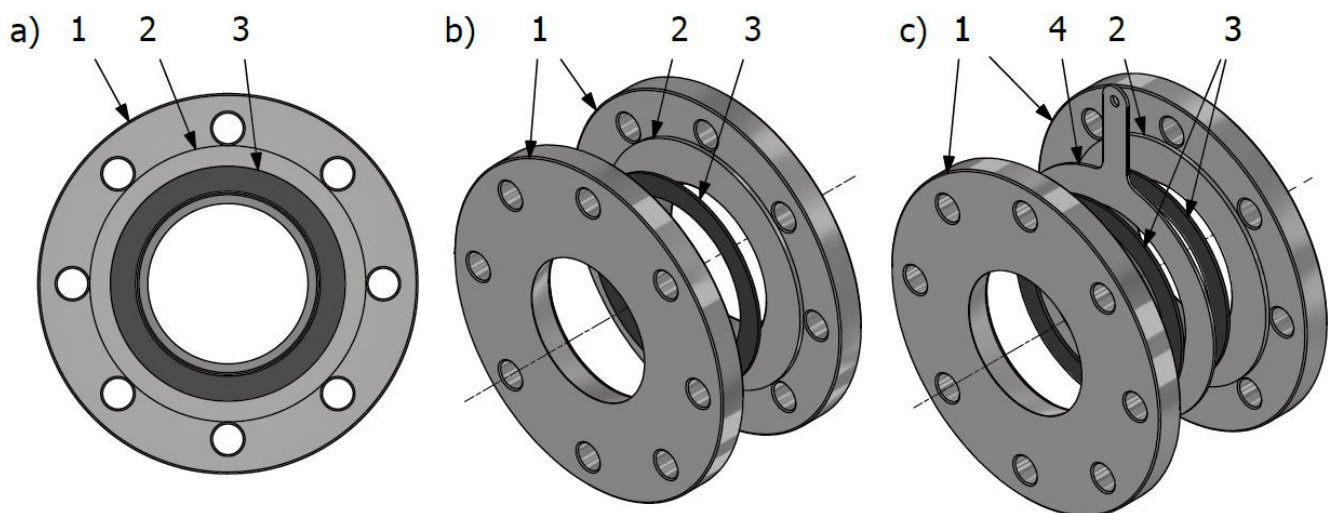

Figure 4. Installation of the gaskets between the flange faces of the sensor and pipeline
- During installation, it is essential to place a gaskets between the flange faces of the sensor and pipeline according to → Figure 4. Installation of the gaskets between the flange faces of the sensor and pipeline